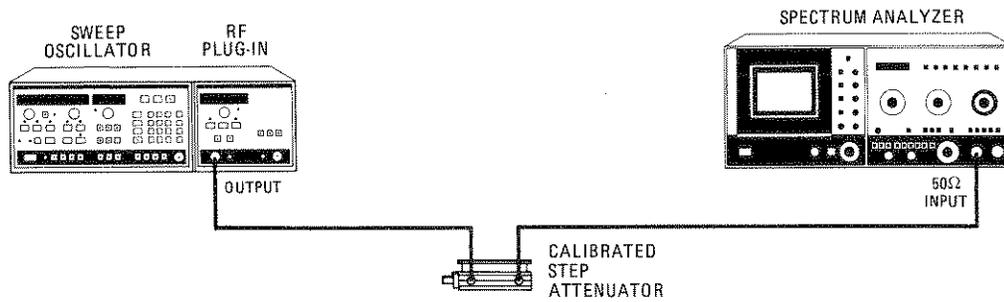

Figure 4-19. Attenuator Accuracy Test Setup
1. Connect equipment as shown in Figure 4-19. Press 8350A **INSTR PRESET**, **CW 4 GHz**. Set the 83595A **POWER LEVEL** to **-1 dBm**.